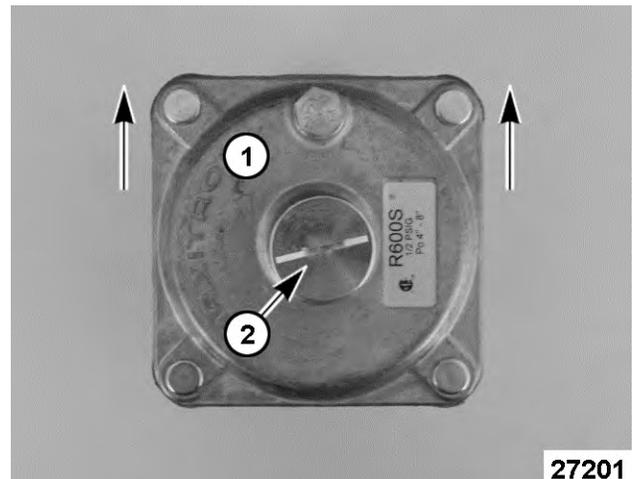

Fig. 23
1. Thread regulator [1] Fig. 23 onto pipe hand tight with arrow on regulator pointing in direction of gas flow to the broiler.
2. Tighten regulator securely in horizontal position with the regulator adjustment upward [2] Fig. 23. Regulator adjustment is below the closing nut.